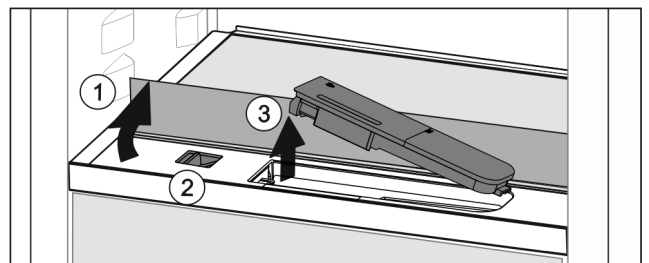

Fig. 35
- ▶ Lift the glass panel and fold towards the rear until it clicks into place Fig. 35 (1).
- ▶ Slide the slider Fig. 35 (2) to the left.
- ▶ Remove the water tank Fig. 35 (3).